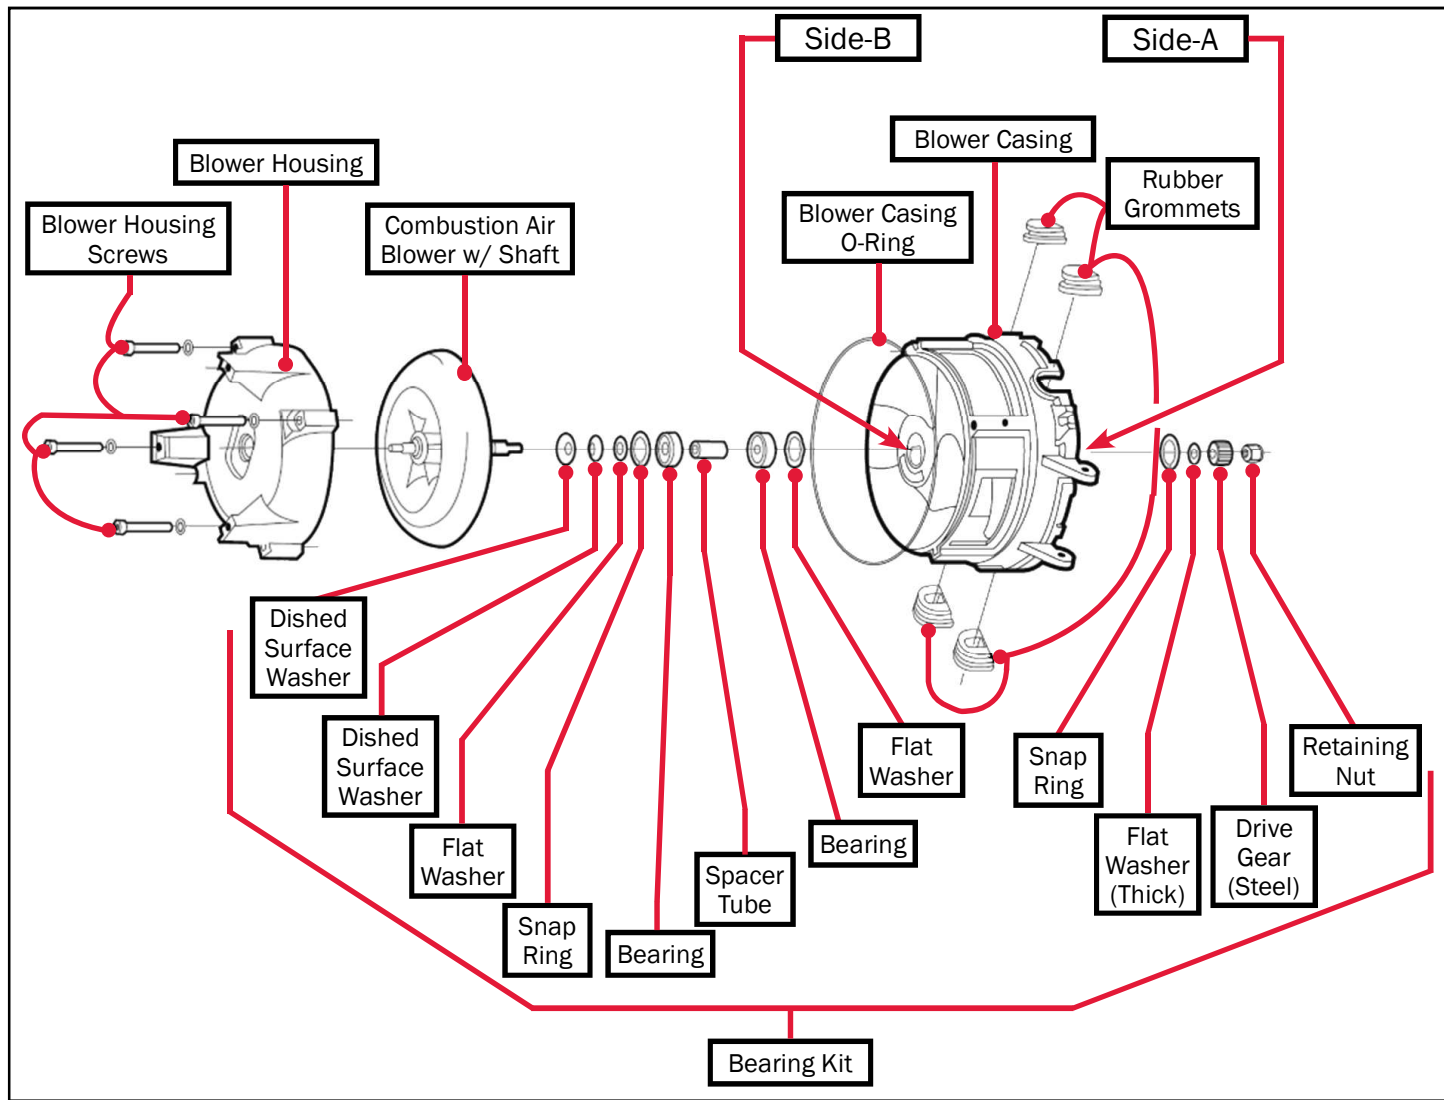

Figure 120b
- Hold side-B (see Figure 120b) of the blower casing and loosen the retaining nut located in side-A of the blower casing. Remove the retaining nut, steel drive gear and thick flat washer from the combustion air blower's shaft. Lightly tap the threaded end of the shaft so that the combustion air blower can be easily removed from the blower casing.